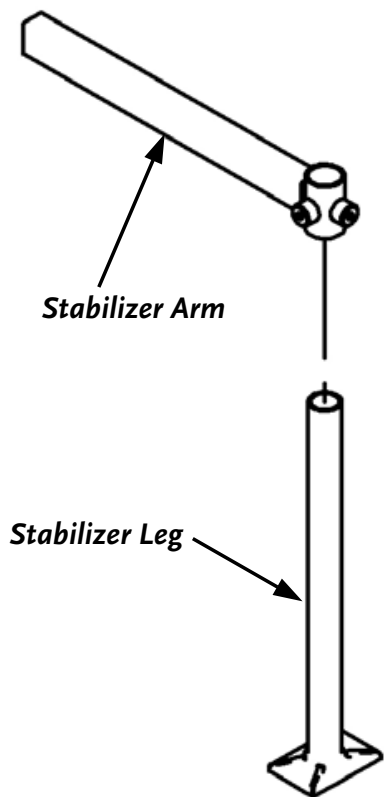
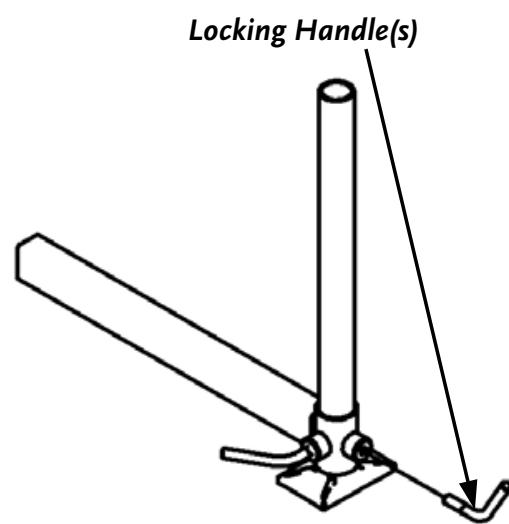

Figure 21
Figure 22
1. Slide the Stabilizer Legs (**Figure 21**) all the way into each Adjustable Stabilizer Arms and screw in and tighten the Locking Handles (**Figure 22**) to hold the Legs in place.